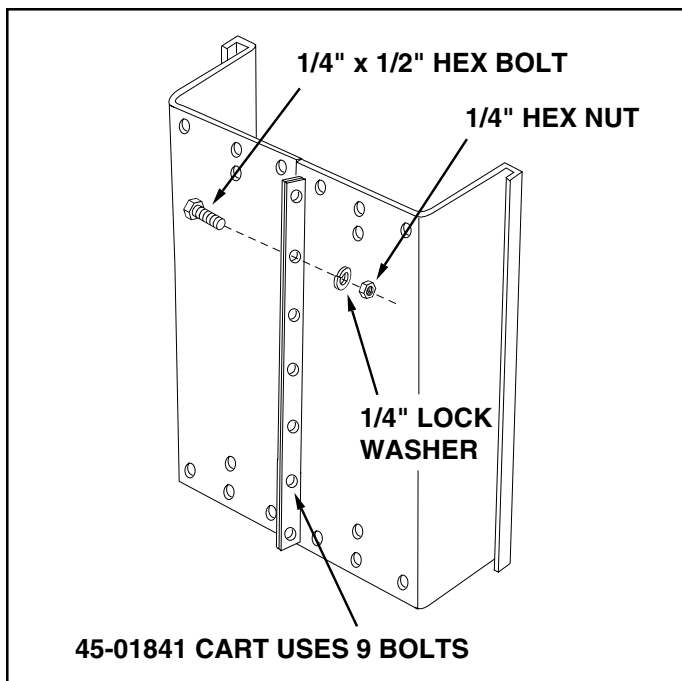

FIGURE 2
3. Position cart body halves upright on a smooth level surface such as a garage floor or a paved driveway. See figure 2.
4. Assemble halves together using seven 1/4" x 1/2" hex bolts, 1/4" lock washers and 1/4" hex nuts as shown in figure 2. **Do not tighten at this time.**